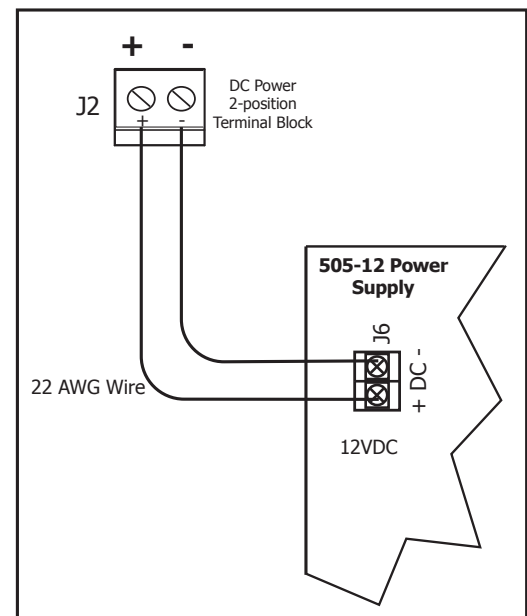

Figure 4: Power Supply Connection
3. Using 22 AWG wire, connect the J2 terminal block to the J6 terminal on the 505-12 power supply PCB. See Figure 4.